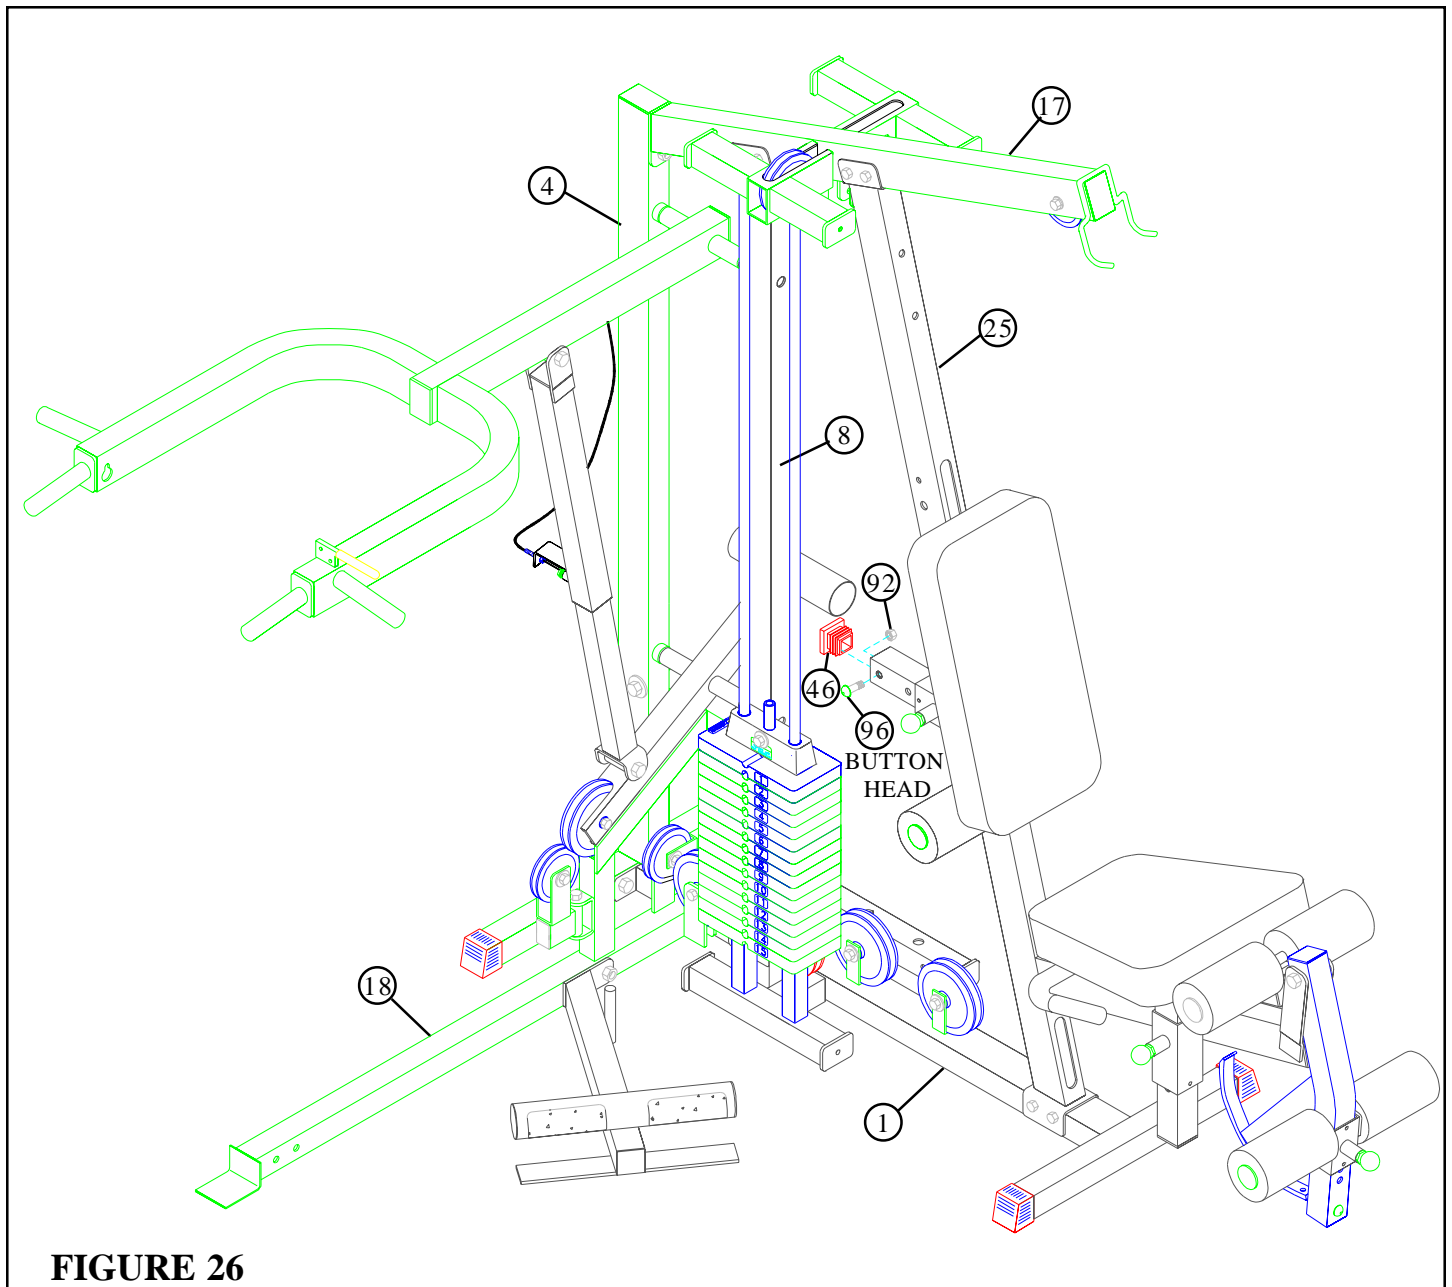

FIGURE 26
- **SECURELY** assemble one 3/8" X 1" **BUTTON HEAD CAP SCREW (96)** and one 3/8" **LOCK NUT (92)** to the last hole on the **BACK PAD ADJUST (16)**. See **FIGURE 26**.
- **SECURELY** insert one 2" **SQ. END CAP (46)** to the open end of the **BACK PAD ADJUST (16)**. See **FIGURE 26**.
- **MIDDLE UPRIGHT (8)** to the **BASE (1)** and to the **TOP BOOM (17)**.
- **REAR UPRIGHT (4)** to the **BASE (1)** and to the **TOP BOOM (17)**.
- **PRESS BASE (18)** to the **REAR (4)** and **MIDDLE UPRIGHTS (8)**.
- **PRESS BASE (18)** to the **BASE (1)**.
- **FRONT UPRIGHT (25)** to the **BASE (1)**.